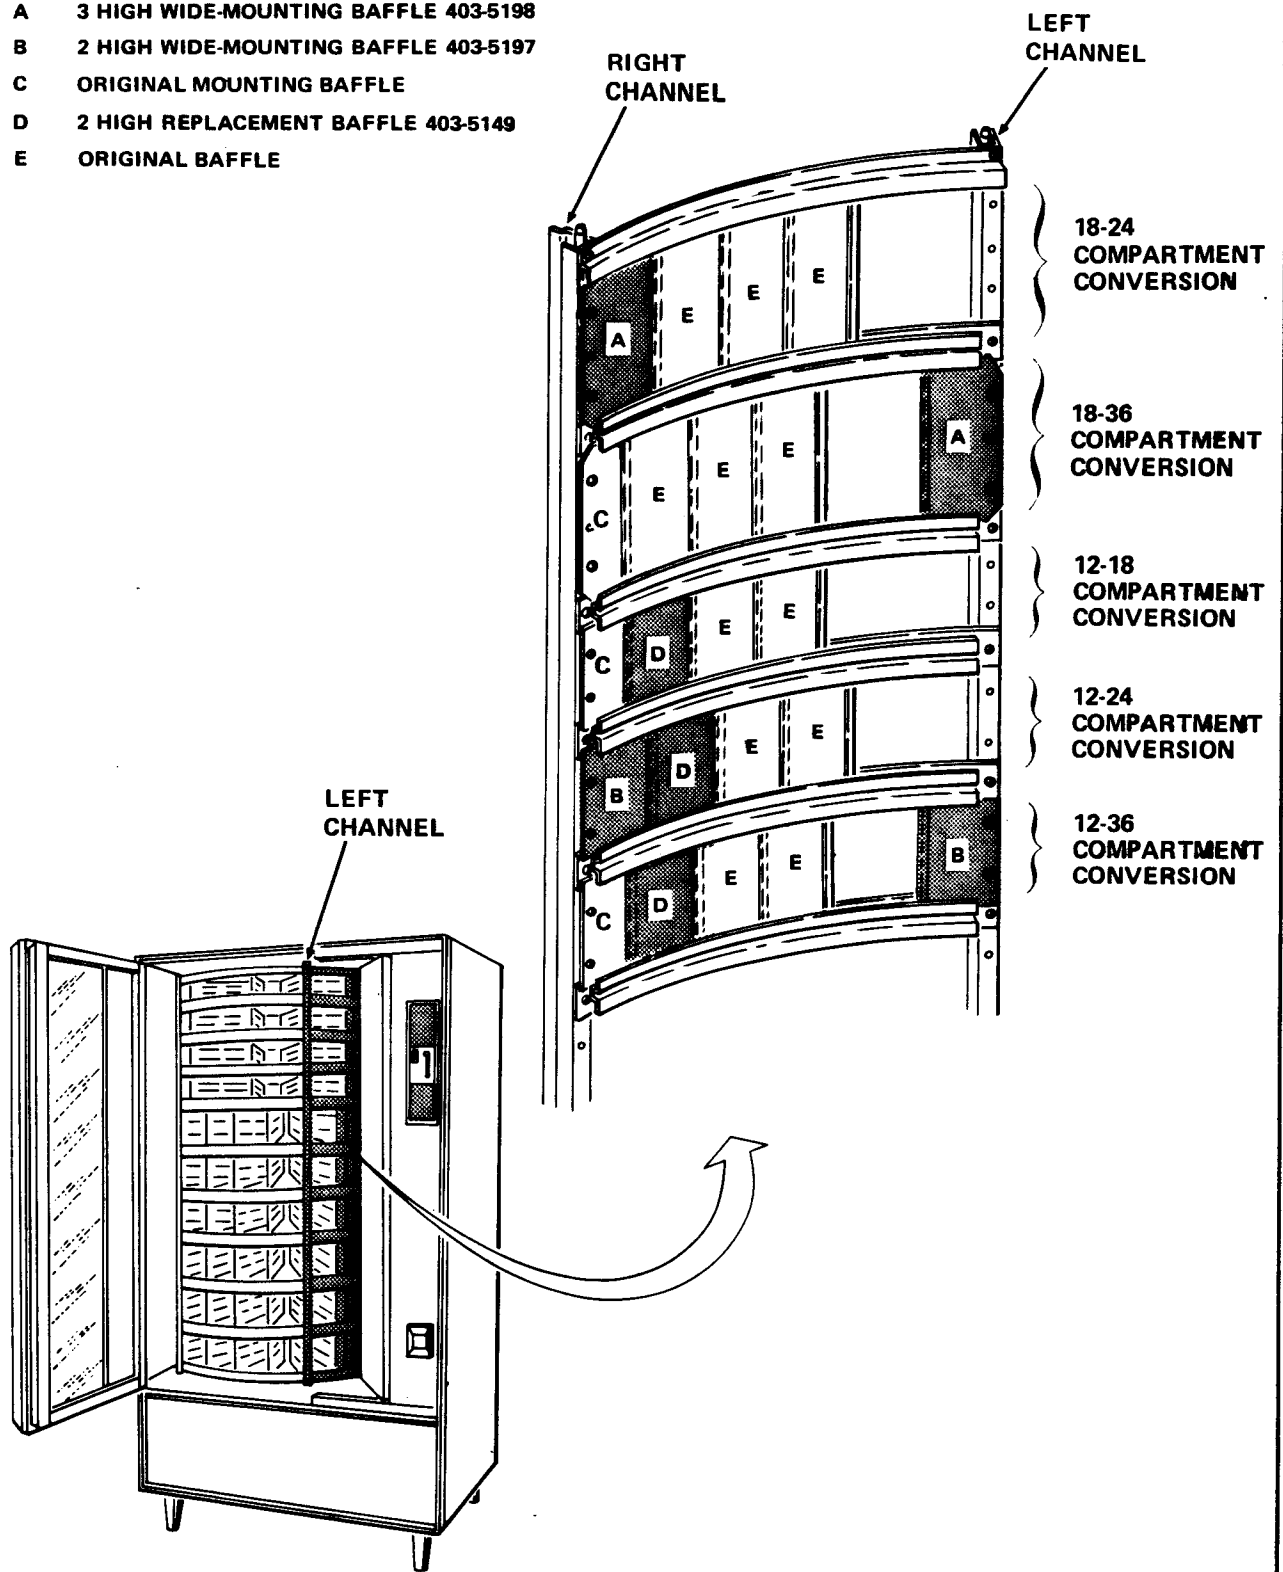

FIGURE 5
4. Slide the replacement 3 High Wide-Mounting-Baffle 403-5198, included in the Kit, into the partially exposed Baffle. See Figure 5.
3. Slide the 3 High Wide-Mounting Baffle 403-5198, included in the Kit, into the Baffle Holder. The edge of the Mounting Baffle with the 3 slotted holes is to be inserted first and the flush side of the Baffle is to be toward the Vend Door side of the Display Baffle Assembly. See Figure 5.
6. Insert the chain of 3-Baffles and the Narrow-Mounting Baffle removed in step III-B3 into the Display Baffle Assembly Holder. The hook end of the first Baffle is to be inserted first. The smooth side of the chain is to be toward the Vend Door side of the Display Baffle Assembly. See Figure 5.
4. Slide the 2 High Baffle 403-5149, included in the Kit, into the partially exposed Baffle and push the chain of Baffles into the Holder until only 1/2 the width of the added Baffle is exposed. See Figure 5.
4. Slide the 2 High Baffle 402-5149 included in the Kit into the partially exposed Baffle and push the chain of Baffles into the Holder until only 1/2 the width of the added Baffle is exposed. See Figure 5.
3. Slide the 2 High Wide-Mounting Baffle 403-5197, included in the Kit, into the Baffle Holder. The edge of the Mounting Baffle with the 2 slotted holes is to be inserted first and the flush side of the Baffle is to be toward the Vend Door side of the Display Baffle Assembly. See Figure 5.